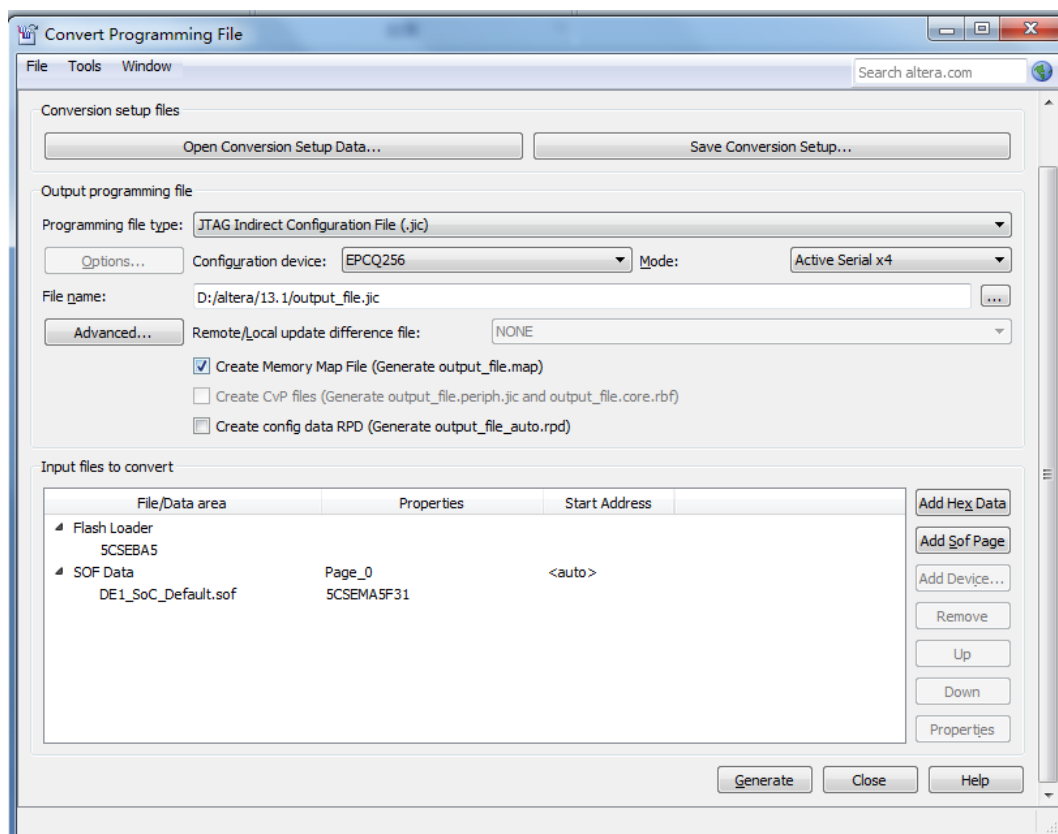

**Figure 8-3 Click on the “Flash Loader”**
10. Click on the **Flash Loader** and click **Add Device**, as shown in **Figure 8-3**.